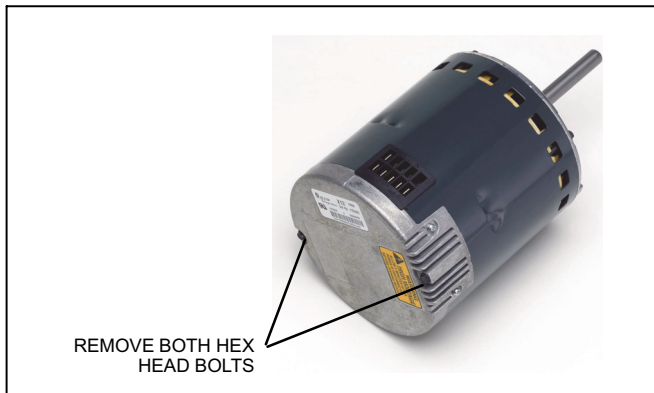

Figure 2. Motor Control Module (Rear View)
4. Remove the two hex head bolts securing the motor control module to the motor (see figure 2).
3. Mount new motor control module to motor using two hex head bolts removed in figure 2. Torque bolts to 22 inch pounds or 1/16th clock turn as exemplated to the right.